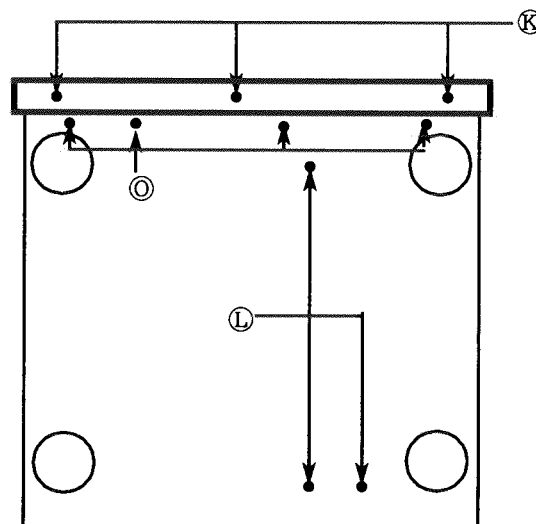

FIG.4 Bottom side
4. Remove 4 screws (O).(FIG.4)
5. Remove 3 screws (L).(FIG.4)